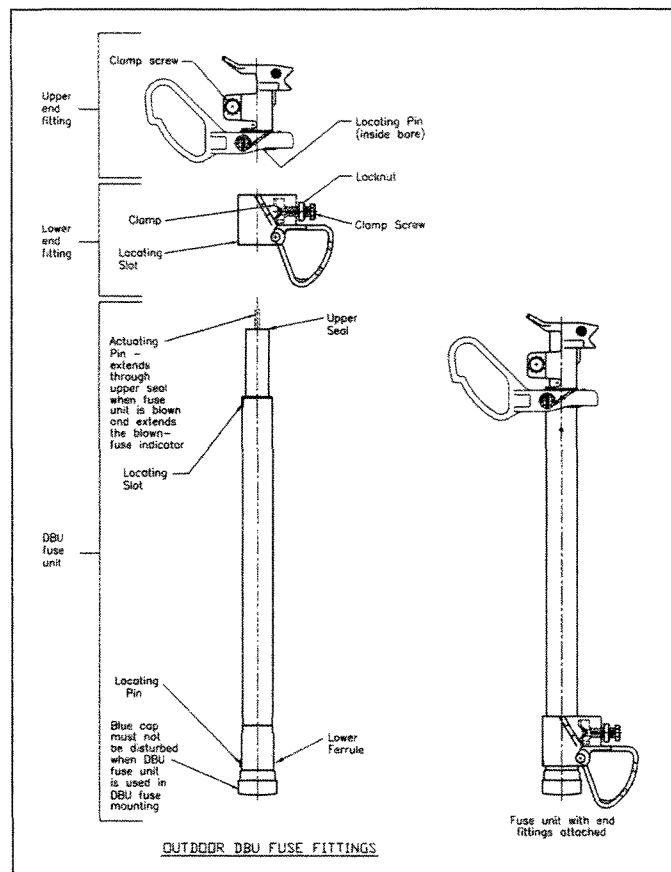

Fig. 2
Attach the fuse-unit end fittings (Fig. 2) as follows:
- When the fuse operates, the Fuse Unit swings to the open position. Remove it from the mounting, using a universal pole equipped with a suitable fuse handling attachment. Examine the end of the fuse unit to determine that the actuating pin (see Figure 2) extends through the upper seal, indicating that the fuse unit has operated.